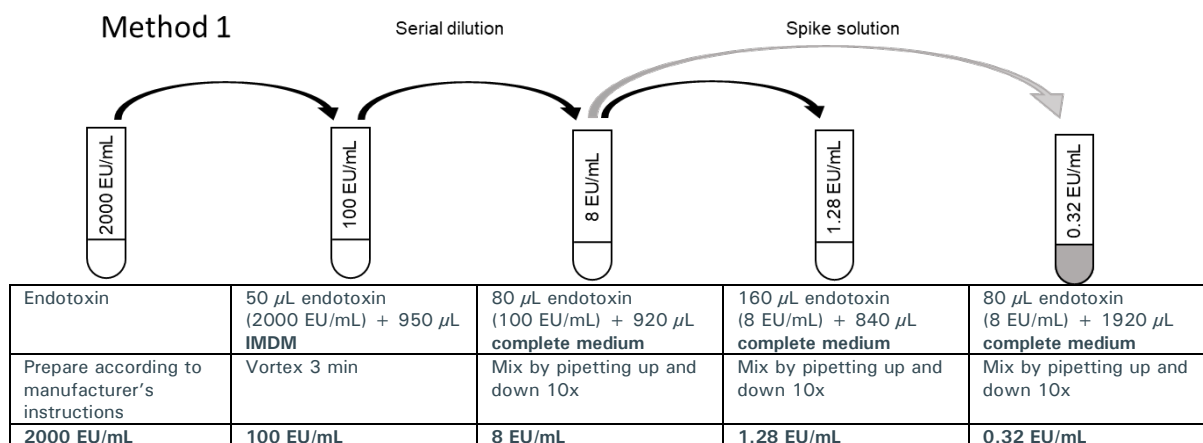

Figure 2: Schematic overview of endotoxin dilutions for method 1
1. Reconstitute the endotoxin standard to 2000 Endotoxin Units (EU)/mL following the manufacturer's instructions (see Figure 2). **Prepare the endotoxin standard curve on the day of the experiment.**
2. Add 950 μ L **IMDM (WITHOUT MAT HUMAN SERUM SUPPLEMENT)** to a non-pyrogenic borosilicate glass tube and to this add 50 μ L of 2000 EU/mL endotoxin to reach a concentration of 100 EU/mL (see Figure 2). Vortex thoroughly for 3 minutes.
3. Add 920 μ L **complete medium** to a non-pyrogenic borosilicate glass tube and to this add 80 μ L of 100 EU/mL endotoxin to reach a final concentration of 8 EU/mL (see Figure 2). Mix thoroughly by pipetting up and down for 10 times, with a volume of at least 500 μ L.
4. Add 840 μ L **complete medium** to a non-pyrogenic borosilicate glass tube and to this add 160 μ L of 8 EU/mL endotoxin to reach a final concentration of 1.28 EU/mL (see Figure 2). Mix thoroughly by pipetting up and down for 10 times, with a volume of at least 500 μ L.
7. Add 1920 μ L **complete medium** to a non-pyrogenic borosilicate glass tube and to this add 80 μ L of 8 EU/mL endotoxin solution to reach a final concentration of 0.32 EU/mL (see Figure 2). Mix thoroughly by pipetting up and down for 10 times, with a volume of at least 1 mL. Do not vortex and prevent the formation of air bubbles.